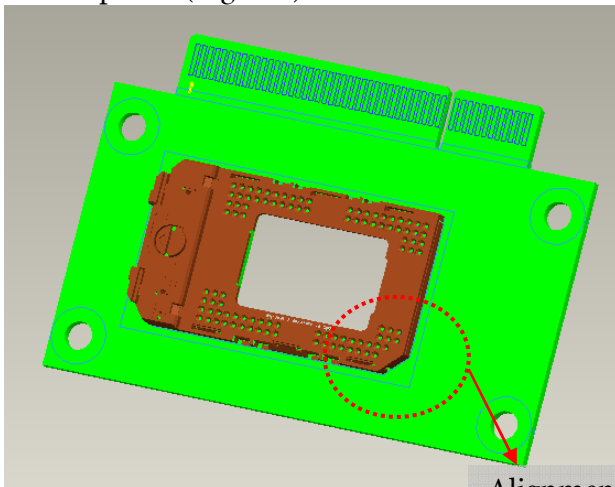

Fig. 4-1
- 4.1. Judge Chip B/D and DMD alignment keying first (Fig. 4-1, 4-2).